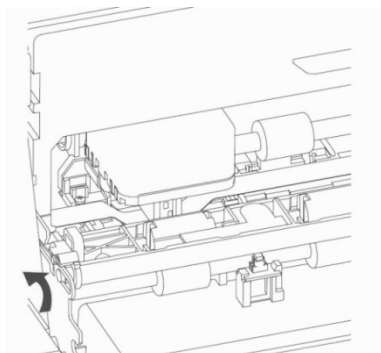

Fig. 1-9
- 5) Turn the paper roller cage inwards to the original position as Fig. 1-9 and close the transparent cover. Installation is done.